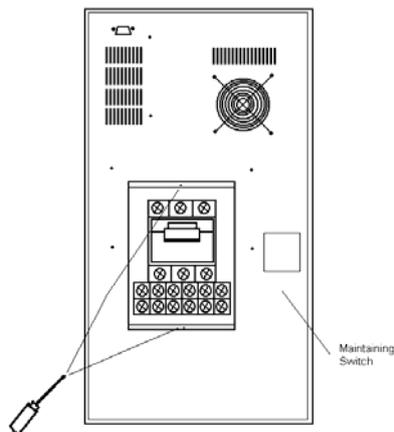

Fig12
- Use screw driver to tear down two screws, refer to Fig12